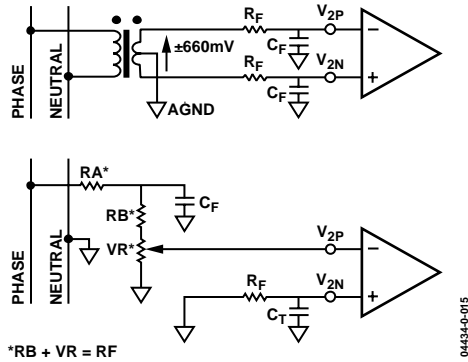

Figure 12. Typical Connection for Channel 2
Figure 12 shows two typical connections for Channel V2. The first option uses a potential transformer (PT) to provide complete isolation from the main voltage. In the second option, the ADE7760 is biased around the neutral wire, and a resistor divider is used to provide a voltage signal that is proportional to the line voltage. Adjusting the ratio of  $R_A$  and  $R_B + R_V$  is a convenient way of carrying out a gain calibration on the meter.